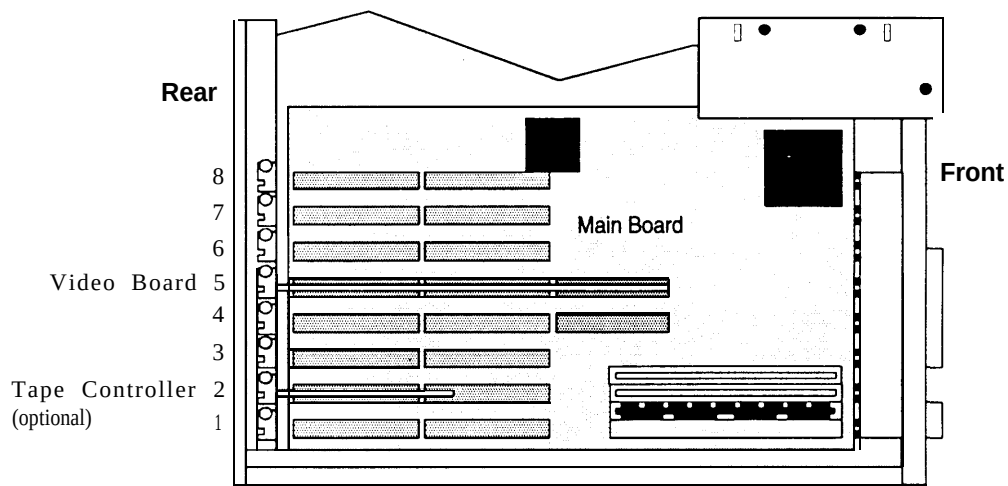

Figure 3-27. Standard Expansion Board Locations
6. Select the slot to be used for installing the expansion board. The slots are numbered as shown in Figure 3-27.